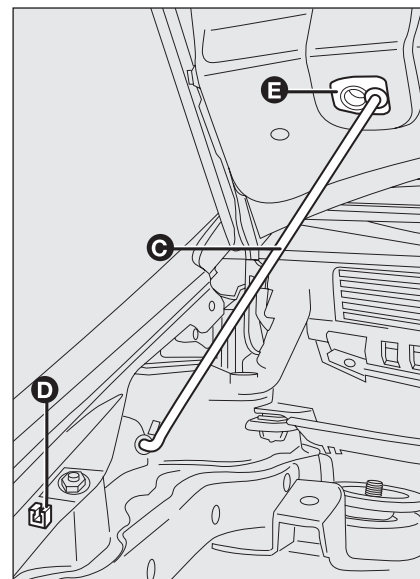

fig. 120
- lift the bonnet and at the same time release the rod **C**-**fig. 120** from the catch, then fit end **D** of the rod into the bonnet recess **E**.
- hold the bonnet up with one hand and with the other remove rod **C**-**fig. 120** from recess **D** and fit it back into its catch **E**;